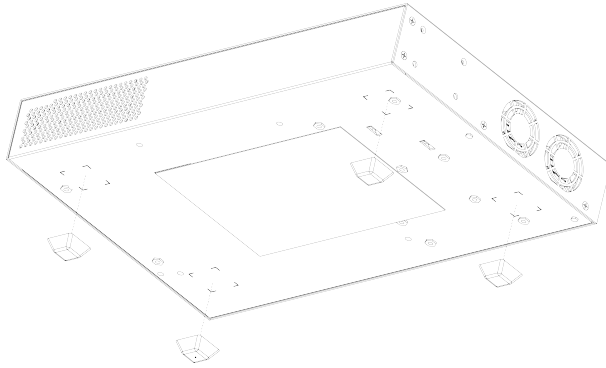

Figure 46: Table Mount: Attaching Rubber Feet
2. Apply the pads to the underside of the RPS by placing a pad at each corner, ensuring that all corners are aligned. Figure 46 shows the locations for attaching the rubber mounting feet on the switch.